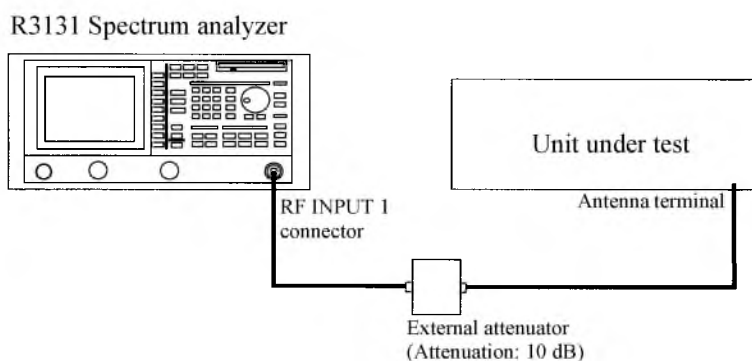

Figure 2-55 Setup for Measuring the Channel Power
1. Connect the transmitter as shown in Figure 2-55.